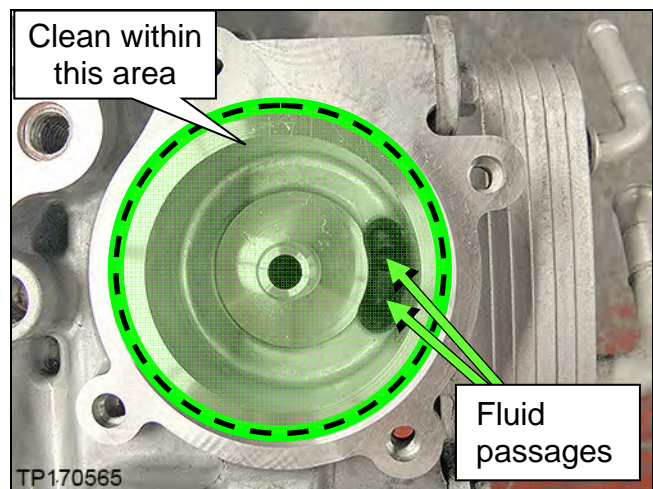

Figure 2C
1. Clean the area where the CVT fluid filter fits (Figure 2C).
2. Clean the fluid passages to and from the filter (Figure 2C).